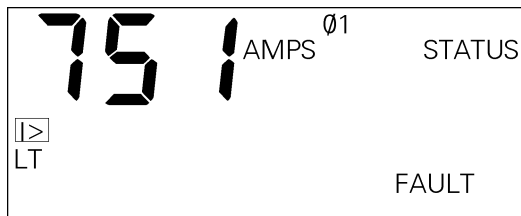

Figure 53. Trip Unit Status display for long-time overcurrent trip.
After a long-time overcurrent trip, the trip information display contains the fault current magnitude at trip, the phase on which the fault occurred, and the overload (I>) and long-time (LT) trip targets. This display is illustrated in Figure 53.